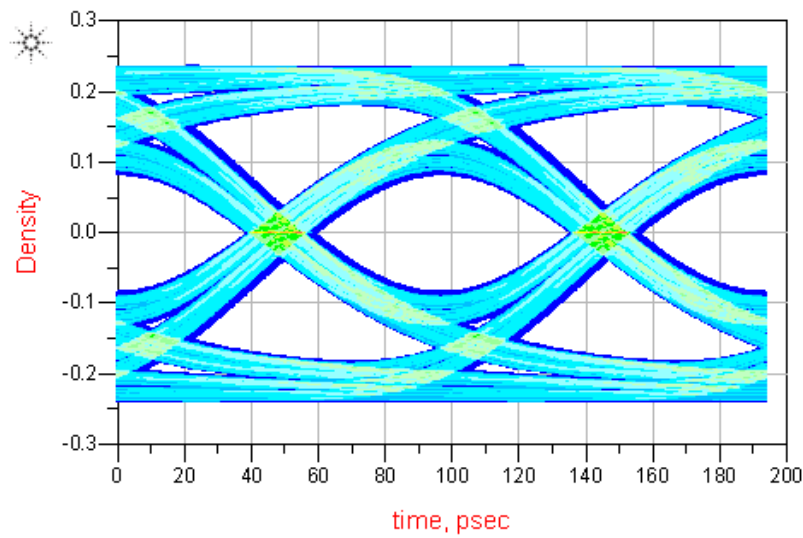

Figure 6: Example eye plot for DS1xxDF111 TX to ASIC RX input (VOD=7, DE=3, DE_range=0)
12. Once the simulation completes, plot the eye (a.k.a. Density). Figure 6 shows an example eye plot at the output of the channel. The quality of the eye generated in this second simulation will be affected by:
- The output de-emphasis level (DE) applied in the second simulation.